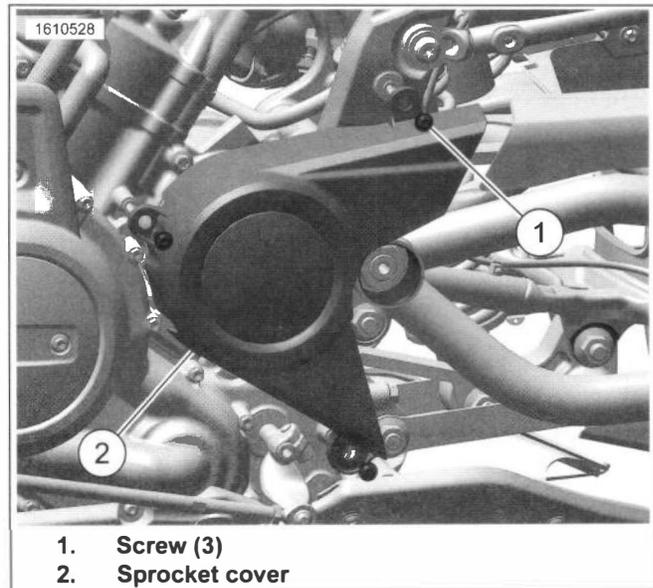

Figure 3-70. Sprocket Cover
1. See Figure 3-70. Remove screws (1).
2. Remove sprocket cover (2).
- a. See Figure 3-70. Install sprocket cover (2).
- b. Install screws (1). Tighten.